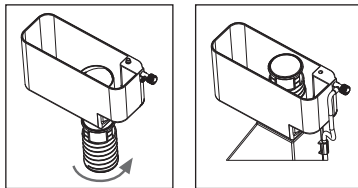

Figure 21: assembling the integrated foam adjuster
2. Familiarize yourself with the assembly of the foam adjuster which will need to be removed periodically for cleaning. When reassembling, make sure that the o-ring at the bottom of the foam adjuster enters the cup smoothly. Initially assemble the foam adjuster to its uppermost position (Fig. 21).